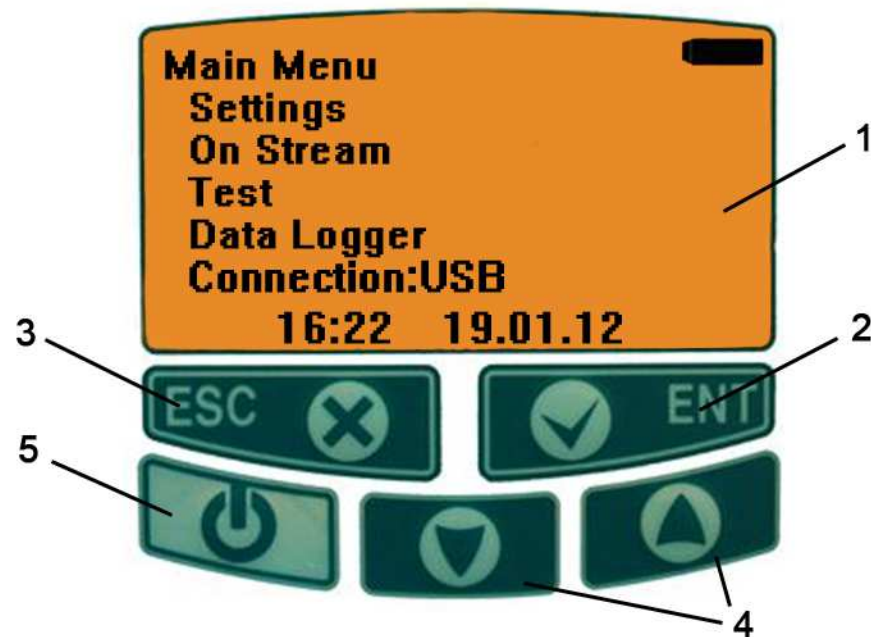

Fig. 1-4 – Display and control unit
The display and control unit of the analyzer is shown in Fig. 1-4.
Switch on the analyzer by pressing the **On/Off** button (pos. 5, Fig. 1-4) and hold it down for 1-2 seconds (to switch the analyzer off press the **On/Off** button and **hold it down for 4-5 seconds**). The splash screen that contains the model name, the manufacturer's name, the serial number, software versions and the current date and time will appear on the display (Fig. 2-1).
If the analyzer does not respond to any action, press the **On/Off** button (pos.5, Fig. 1-4) and the **Esc** button (pos.3, Fig. 1-4) simultaneously to restart the analyzer.